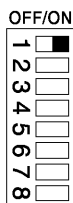

Fig. 6
**IMPORTANT:** Set dip switches 7 and 8 on the bottom (SW1) to 'OFF' to return the appliance to 'Normal' combustion. (Fig. 6).